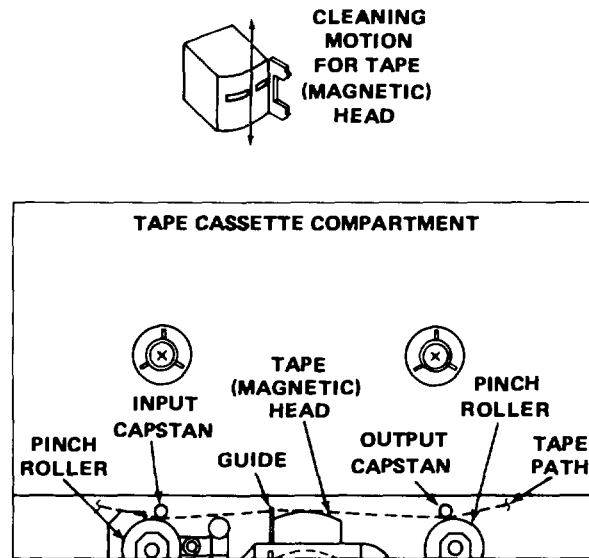

Figure 3-1. Cassette Tape Compartment and Tape Head
- d. Unlatch and open the cassette loading door. Remove any cassette by pressing the EJECT button. Inspect the compartment, tape heads, capstans, rollers, and other items. (See figure 3-1.) 3-15 SERVICE.
b. Clean the tape head, capstans, and guides using lint-free cotton swabs dampened (not wet) with xylene. Clean the magnetic tape head by wiping the surface in the direction shown in figure 3-1. Be sure no deposits remain on any of the elements. The elements must be dry before use.